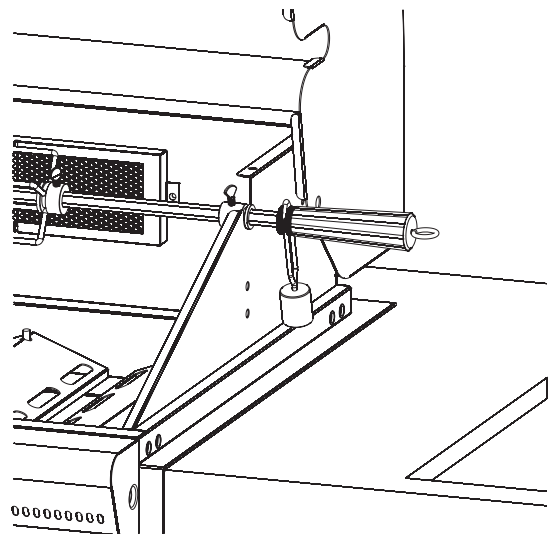

Figure 13
16. Screw jamb nut to the threaded side of spit. Slide counterbalance onto threaded end of spit. The counterbalance will remain to the outside of the grill. Screw second jamb nut into the spit to hold counterbalance in place. See Figure 13.
17. Attach handle onto spit. See Figure 13.